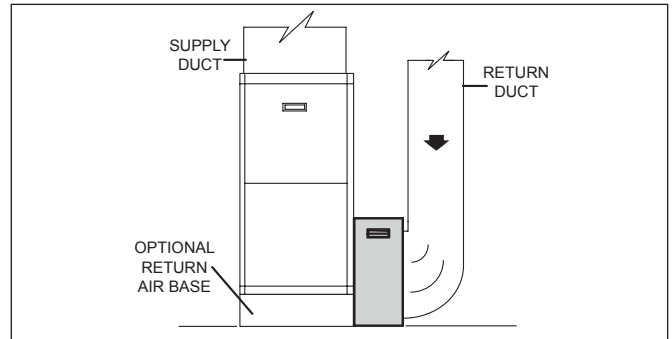

Figure 9. Up-flow Furnace (5 ton, Option 1)
Option 1 - Install Return air base, part numbers 98M60, 98M58. Complete Comfort™ CCC20-28 Cabinet is installed vertically and return air enters the furnace side inlet (see figure 9).
2. Align the cabinet opening on the furnace. (For 5 ton application, use option 1 or 2 (figure 9 or 10).